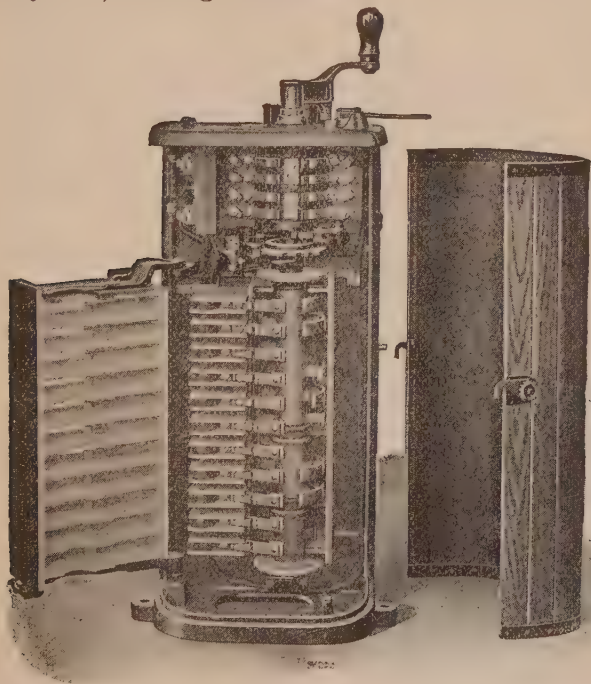

FIG. 153. General Electric controller for the motors of a trolley car; acts like a set of switches.
**73. Series-Parallel Control for Electric Cars.** Most electric cars have at least two motors, which are of the series type. The controller shown in Fig. 153 is in the front of the car, and is operated by the motorman. It acts as a set of switches which throw out the starting resistances, etc. When the controller handle is advanced